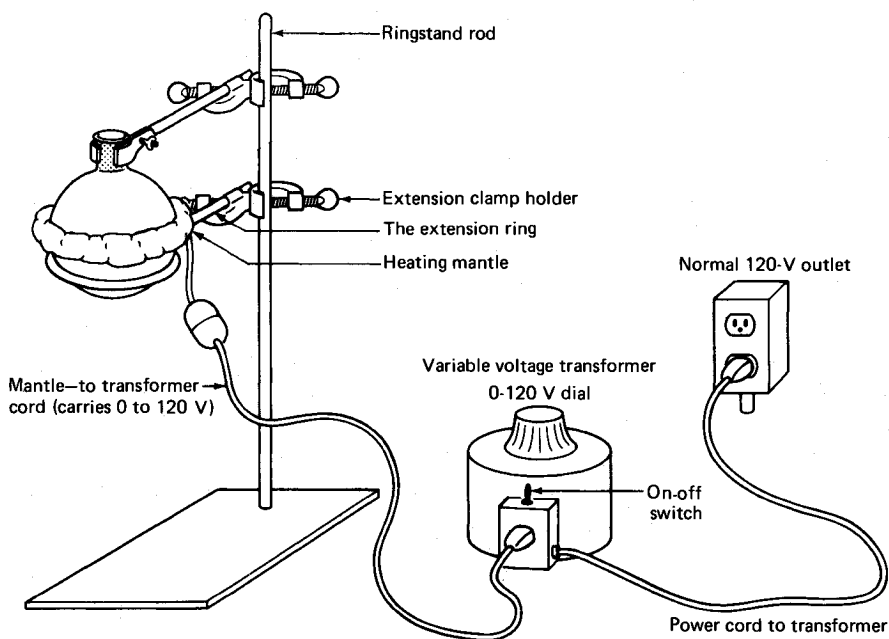

Fig. 61 Round-bottom flask and mantle ready to go.
2. ***The traditional fiberglass heating mantle.*** An electric heater wrapped in fiberglass insulation and cloth that looks vaguely like a catcher's mitt (Fig. 61).
HINT. When you set up a heating mantle to heat any flask, usually for **distillation or reflux**, put the mantle on an iron ring and keep it clamped a few inches above the desktop (Fig. 61). Then clamp the flask *at the neck*, in case you have to remove the heat quickly. You can just unscrew the lower clamp and drop the mantle and iron ring.